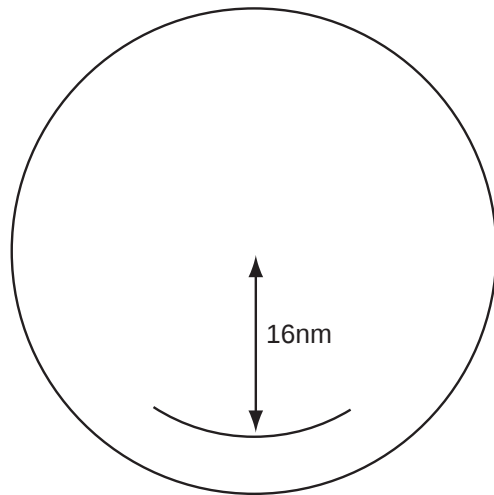

Fig.2
2. Adjust PM GAIN ADJ so that outer arc just disappears (Fig.2).